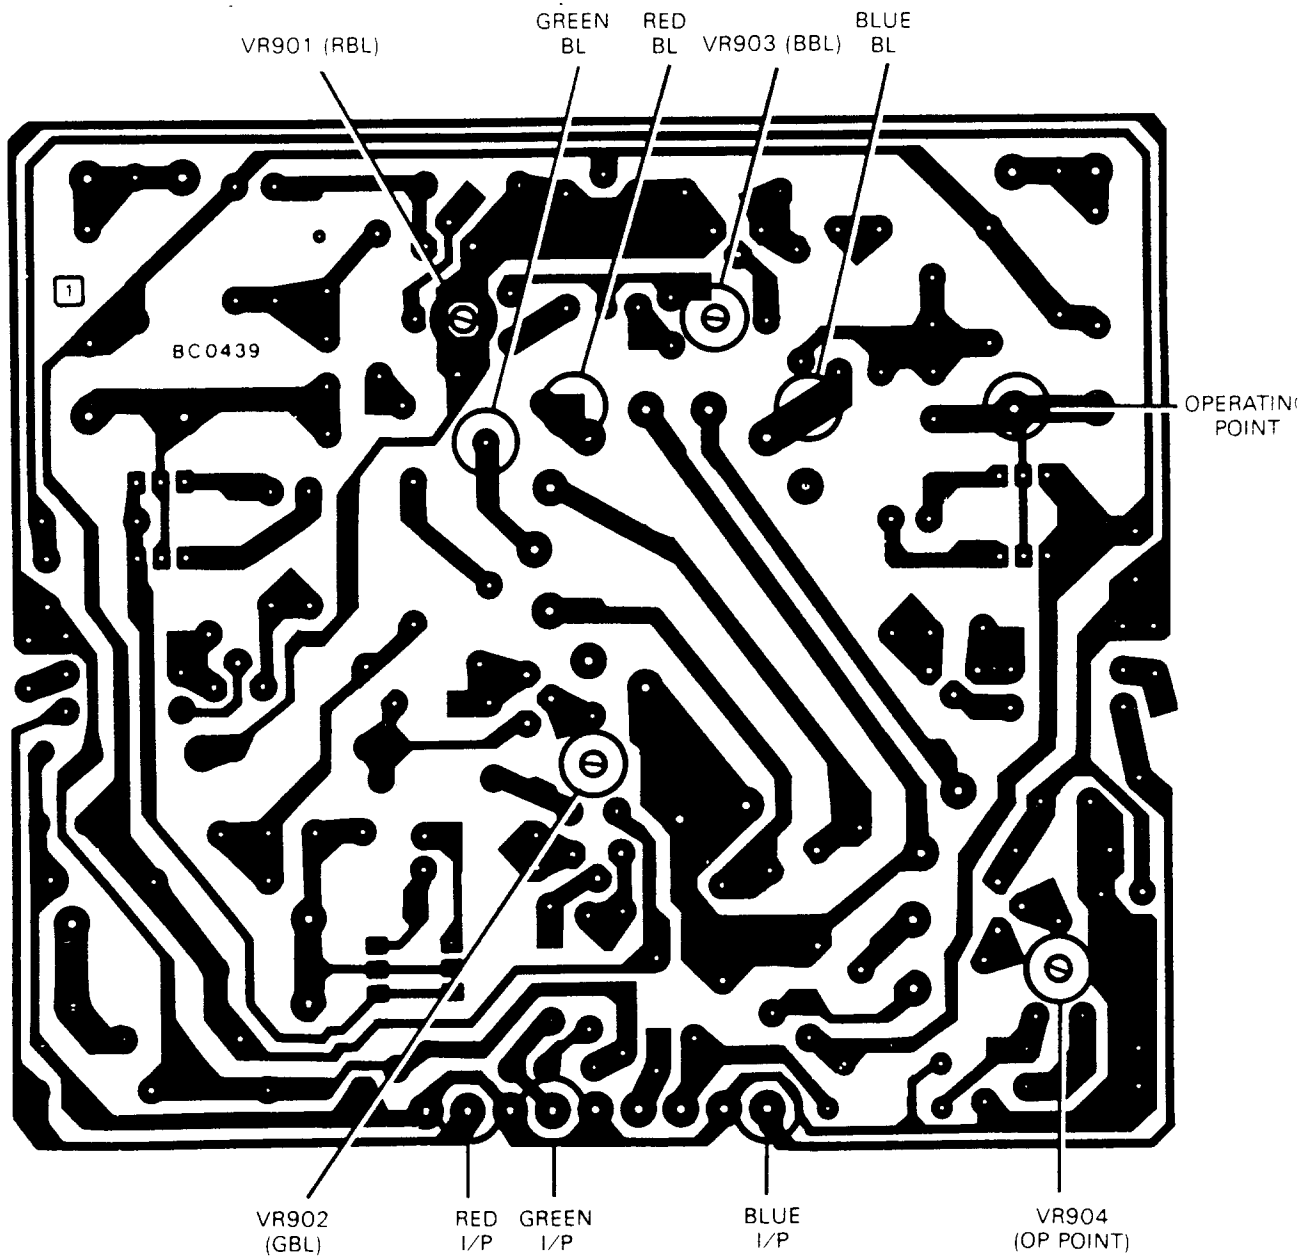

FIG 2 SERIES 7 MK2 TUBE BASE PCB MEASUREMENT POINTS
Series 7 Mk 2 Tube Base PCB Measurement Points : Fig 2
3. Probe Operating Point shown on Fig 2 with CRO.
Probe Red I/P, Green I/P, and Blue I/P points shown in Fig 2.
3. Probe with CRO the R,G and B input points on the Tube Base PCB Assembly, shown in Fig 2, Tube Base PCB Measurement Points.
These presets should be adjusted to provide 2.4V Black-To-White levels, as shown in Fig 3, when measured with the CRO at the respective R, G, and B input points - shown in Fig 2 on the Tube Base PCB Assembly.